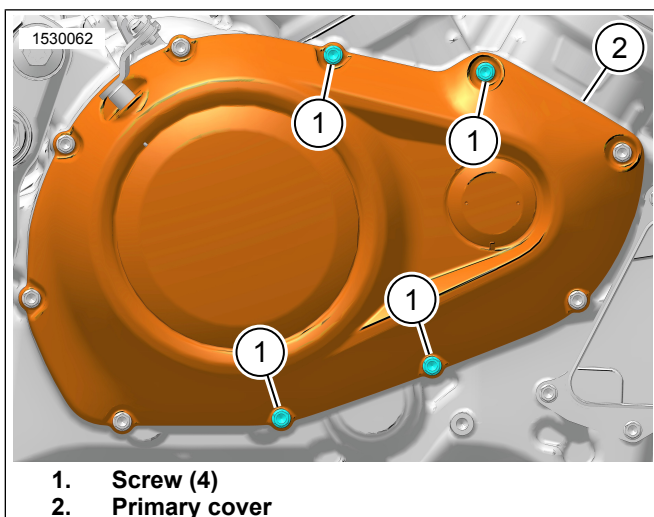

Figure 4. Primary Cover
9. See Figure 4. Remove four screws (1) from primary cover (2) and discard.